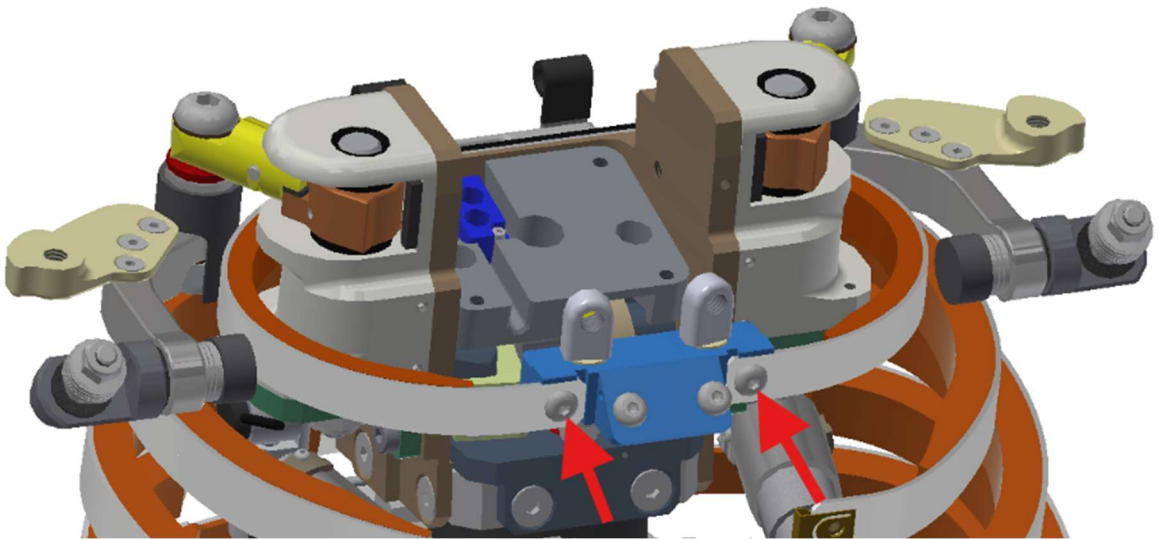

Figure 5-17. Remove the Rib 1 to Sternum Adaptor (474-3040-A) from Rib 1 (474-3301-A)
5.2.11 Remove the Rib 1 to Sternum Adaptor (474-3040-A) from Rib 1 (474-3301-A) by removing two M5 X 0.8 X 12 LG. BHCS (Figure 5-17).